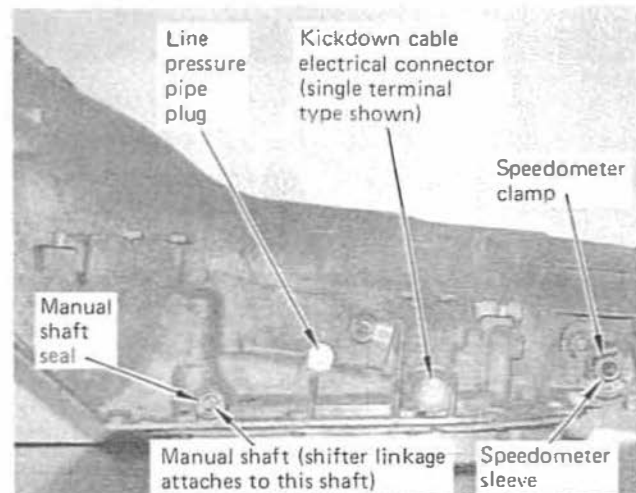

FIGURE 2
STEP 4. Disconnect kickdown cable wire on left side of case, (See Fig. 2) Disconnect shifter linkage. On cable shift models (floor consoles) unbolt cable bracket from pan and leave cable attached to bracket. Disconnect speedometer cable.
STEP 9. Remove speedometer retaining bolt and clamp. (See Fig. 2) Pull speedometer sleeve and driven gear out of transmission. Remove and discard O-ring and inner seal. Do not lose small wire clip for inner seal. Put sleeve and gear in oil pan.
STEP 20. Remove cooler fittings from case. Remove 1/8" NPT pipe plug from left side of case at line pressure tap. (See Fig. 2) The case is now stripped and can be cleaned. The park pawl does not have to be removed. When handling the case, be careful not to damage the valve body surface as this can cause erratic operation.